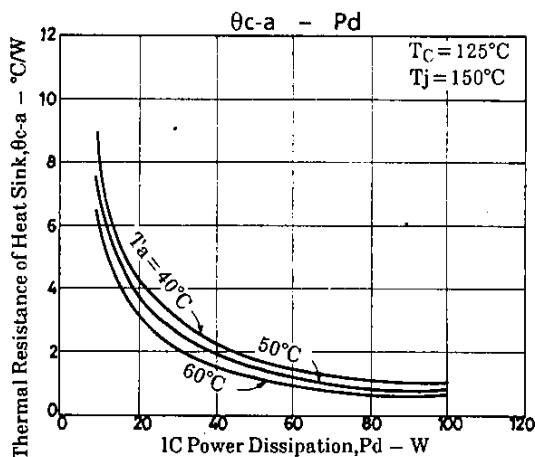

Fig.2 STK4231 II . θc-a - Pd
Fig.2 shows the relation between Pd and θc-a given from (1) and (3) with Ta as a parameter.
The thermal resistance of a heat sink is obtained from Fig.2.